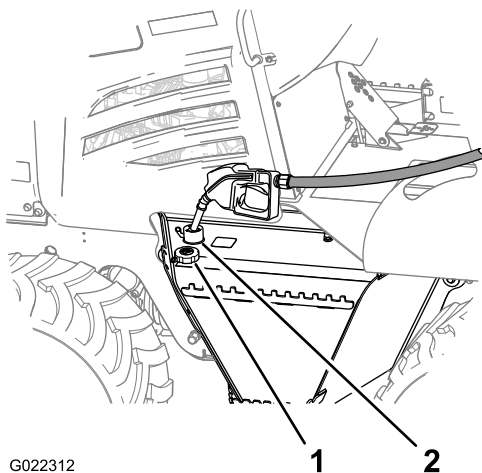

Figure 19
1. Clean around the fuel-tank cap (Figure 19), and remove the cap from the tank.